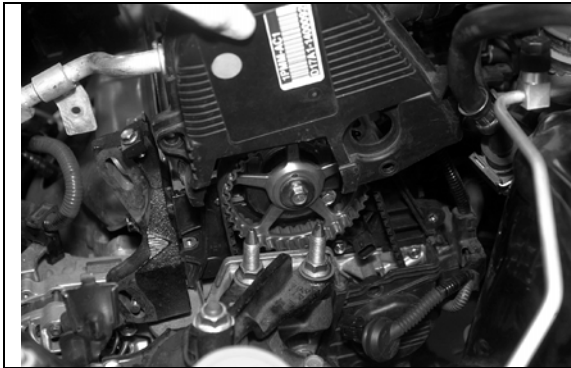

Fig. 10
- p) Remove the plastic upper cover to expose the cam gear. **(Fig. 10)**